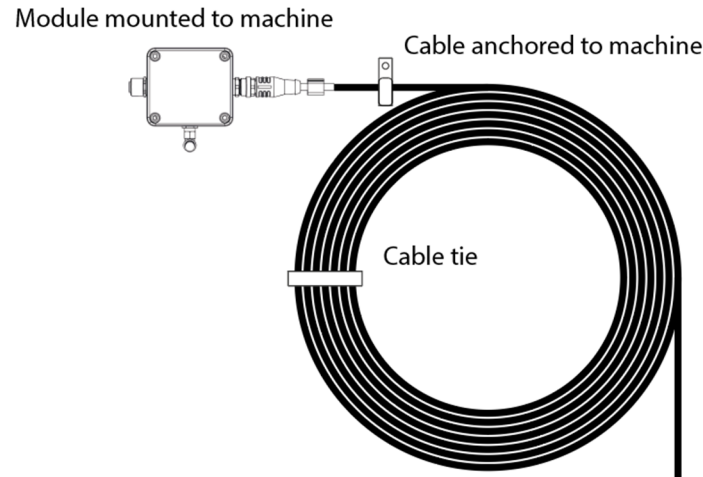

Figure 16.- Cable connection securing process
5. Secure the cable connection between modules to the machine 120-150mm away from the mounting location using an appropriately sized cable clamp. Do not coil the cable with a bending radius of less than 100mm (Figure 16).